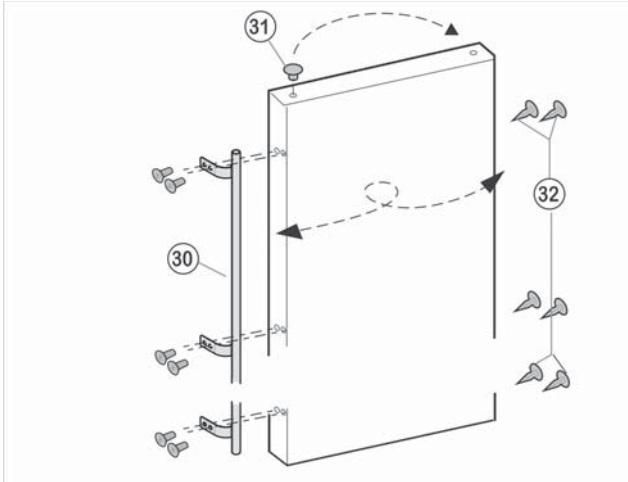

Fig. 22
- Pull plugs Fig. 22 (31) out of the door bearing bushes and move them to the other side.
- Detach the door handle Fig. 22 (30) and plug Fig. 22 (32) and move them to the opposite side.